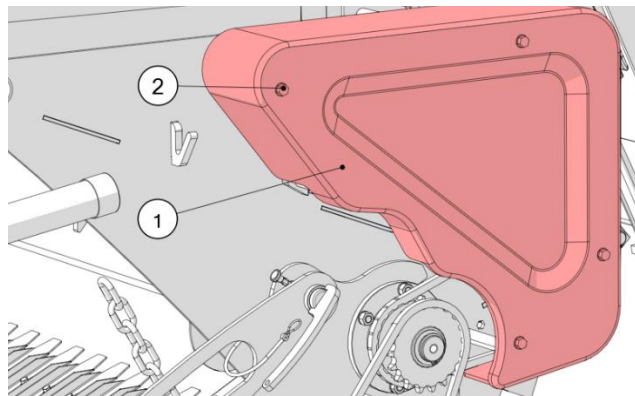

Figure 53. The left guard of the rotor
- Remove the left guard of the rotor (1) by undoing the bolts (2), according to Figure 53;
- Remove the guard (1) by undoing the bolts (2), as shown in Figure 53;